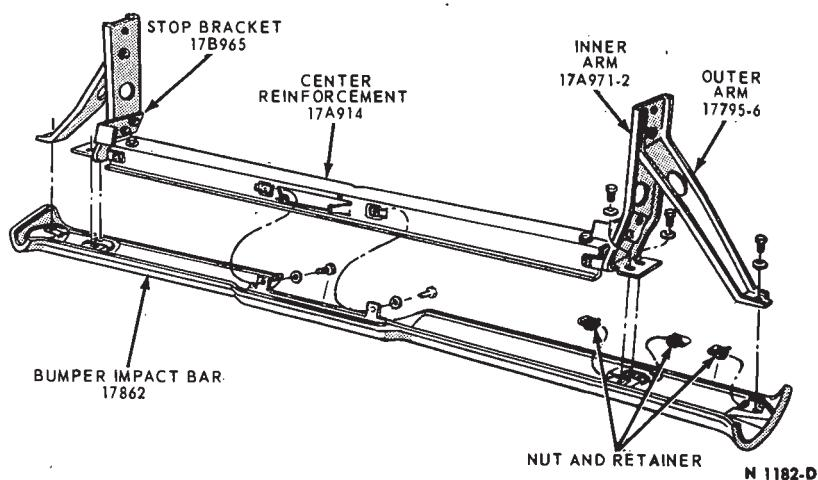

FIG. 23—Rear Bumper—Thunderbird
2. Remove one bolt attaching each outer arm (Fig. 23) to the bumper.